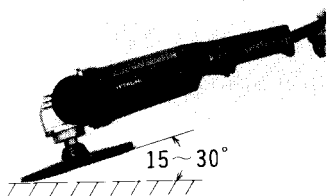

Fig. 2
2. Rather than applying the entire disc surface to the metal surface to be ground, use the sander by inclining it approximately $15^{\circ} \sim 30^{\circ}$ to grind with the disc peripheral portion. (Fig. 2)